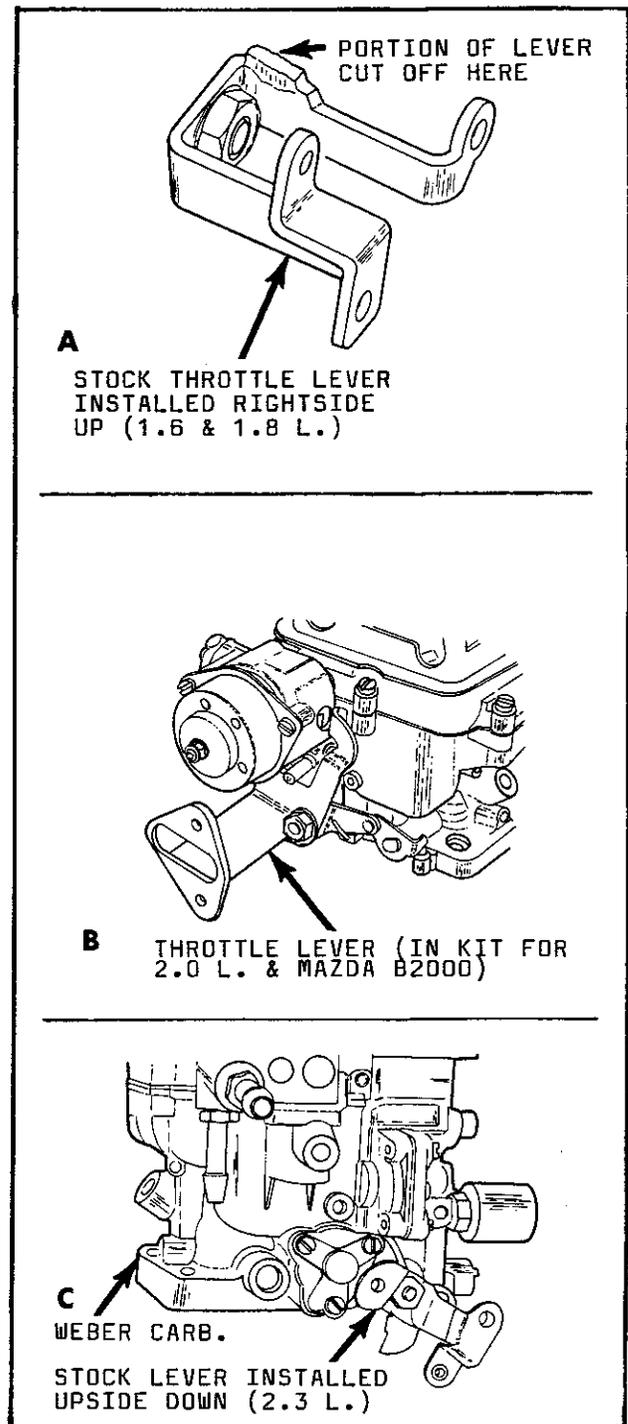

Figure 1
13. For 1.6 and 1.8 liter installations, remove throttle lever from stock carburetor and install it on the Weber as shown in figure 1-A. **NOTE:** On these vehicles, it is necessary to cut the tab that contacted the microswitch from the stock lever. If the vehicle has a 2.0 liter engine, install the throttle
supplied in kit on the Weber carburetor as shown in figure 1-B. If the vehicle has a 2.3 liter engine, remove throttle lever from stock carburetor, turn it upside down and install on the Weber. See figure 1-C.